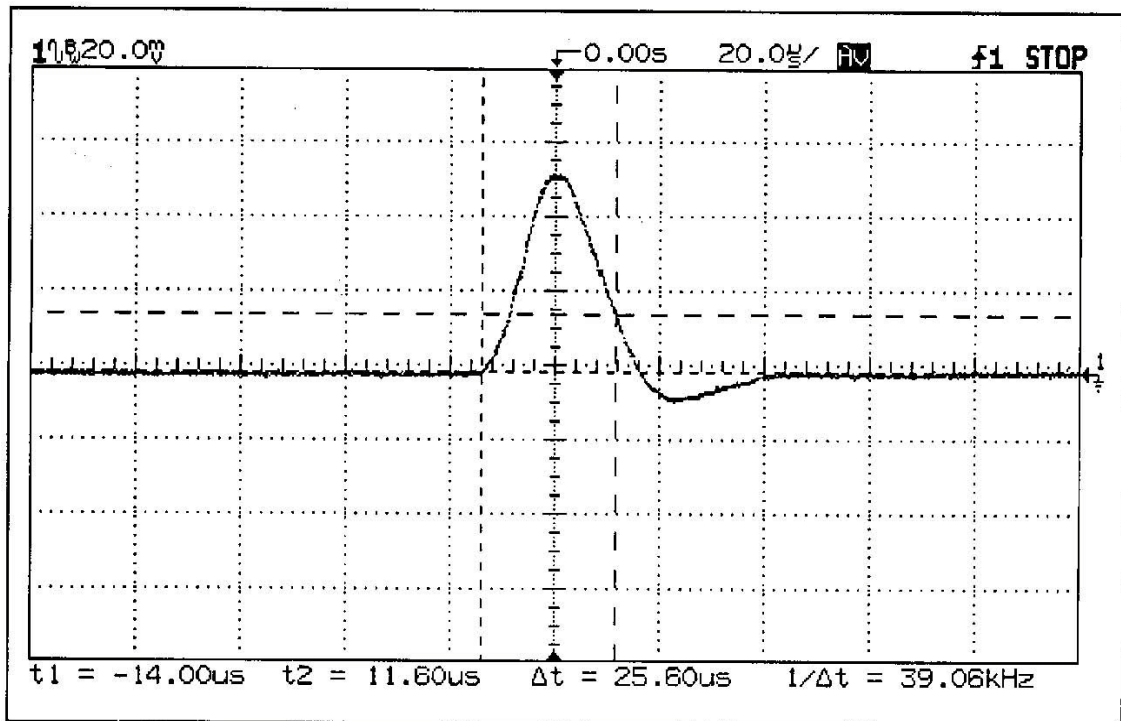

Figure 5-7 Load transient response time waveform
- 6 Adjust the oscilloscope to display transients as in Figure 5-7.